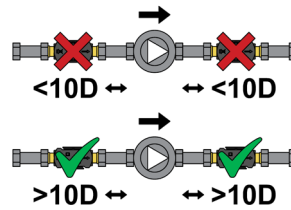

Fig.3
3. Do not place the flow sensor immediately before or after a circulation pump (*Fig.3*);